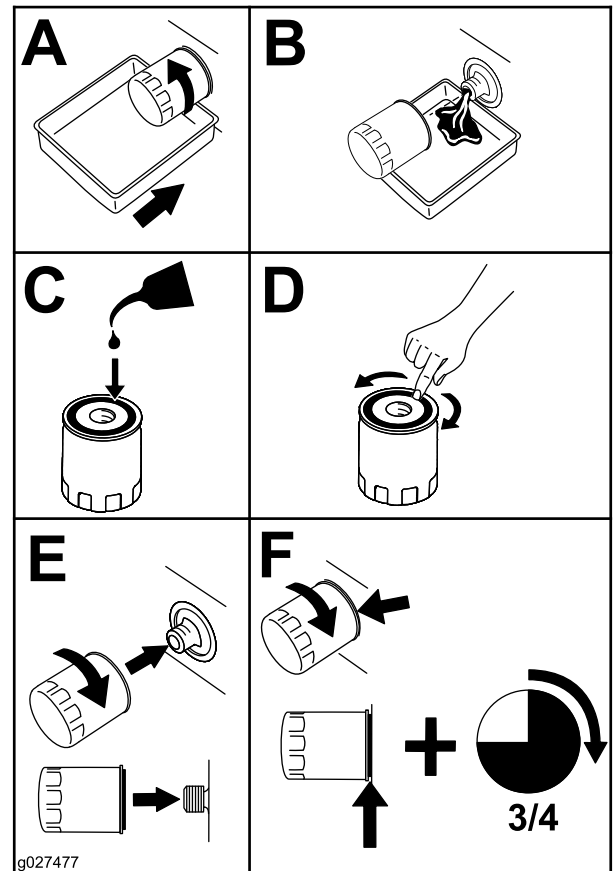

Figure 58
2. Change the engine-oil filter (Figure 58).